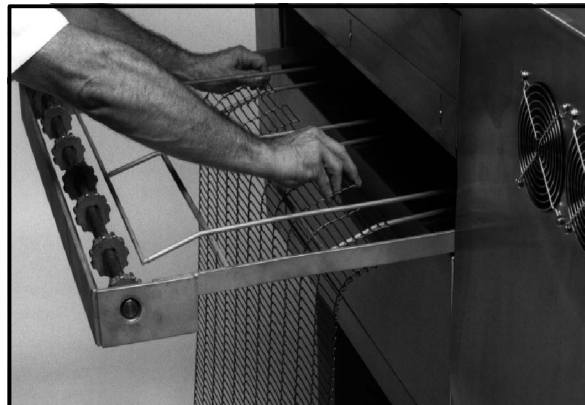

Figure 8
1. Start from the right hand side of the oven, lower level first. Unroll the belt as shown in Figure 8, otherwise the belt will be upside down. Leave about one foot hanging out on the left side